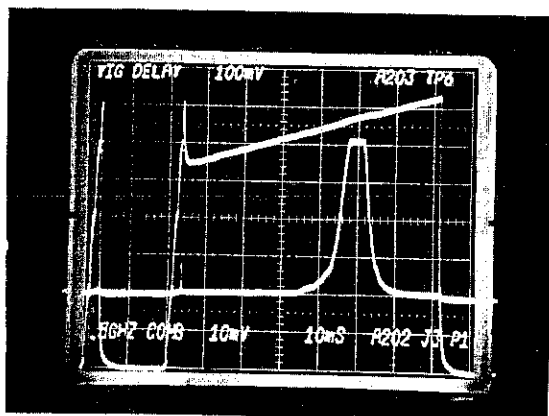

FIGURE 6-5
(1) With connections as in paragraph 6.7e, set input frequency to 1 GHz at -15 dBm, and oscilloscope time base control to 10 ms/div., unexpanded.
(2) Adjust YIG Delay Correction A202R16 so display appears approximately as shown in Figure 6-5.